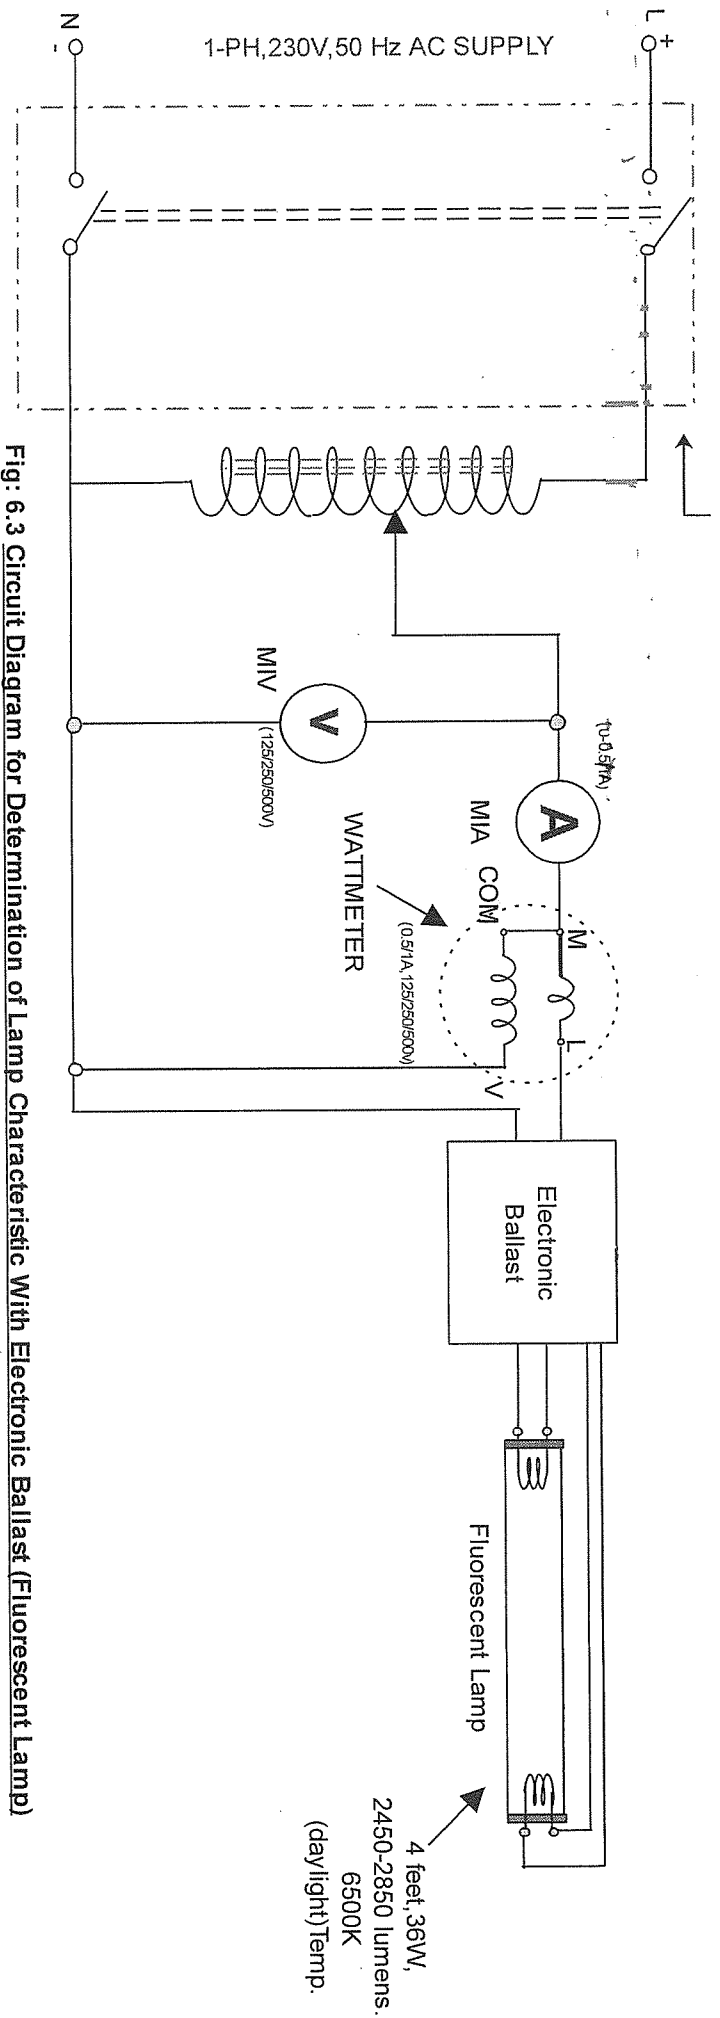

Fig: 6.3 Circuit Diagram for Determination of Lamp Characteristic With Electronic Ballast (Fluorescent Lamp)
7. Repeat each of the above steps for Aluminum choke, Copper choke and Electronic choke as shown in Fig.6.3.